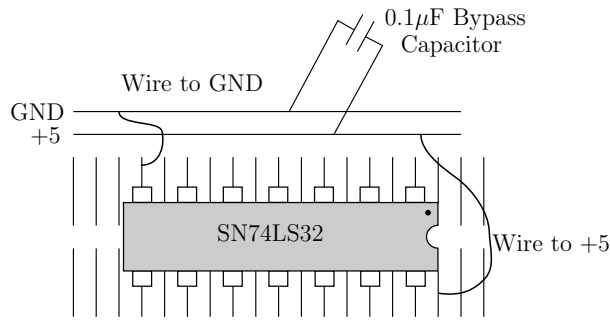

Figure 2: Connecting power supplies to TTL chips.
- When you wire logic, connect +5V and GND to power busses which are adjacent. You also need to include $0.1\mu F$ decoupling capacitors to provide a local low impedance to the chip power lines. This prevents spikes on the supply lines due to rapidly varying currents. Refer to Figure 2 for a schematic. Note that the notch and/or dot indicates pin 1 of the IC. Caution ! Wiring the supplies backwards will destroy the device.